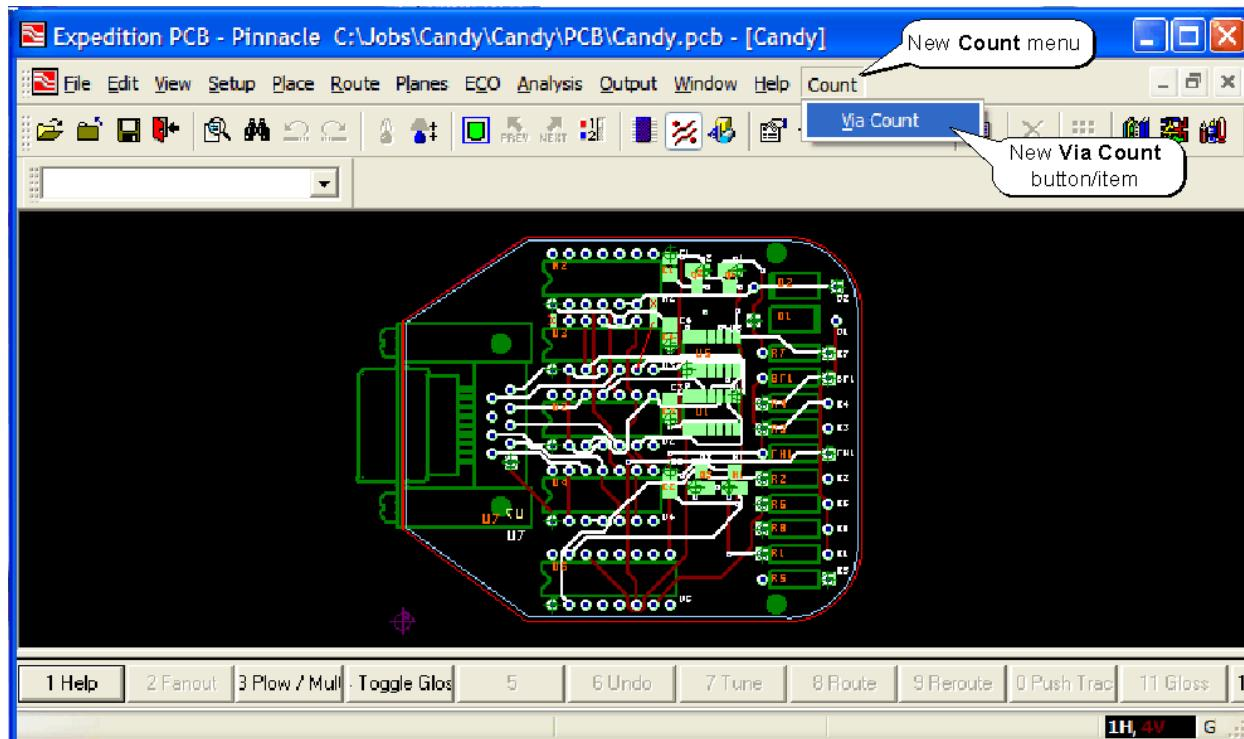

Figure 6-7. The new Count main menu item.
- 2) At this stage you may open a layout design of your choice, however, you are not obliged to do so – see also point (6).
- 5) In this case, as soon as you run this script your new main menu item appears as illustrated in Figure 6-7.